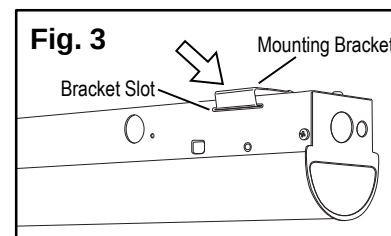

Fig. 3
4. Place the **fixture** over the **outlet box** and slide the **fixture** so that the **mounting brackets** snap into the **bracket slots** and is secured flush against the ceiling. (Fig. 3)